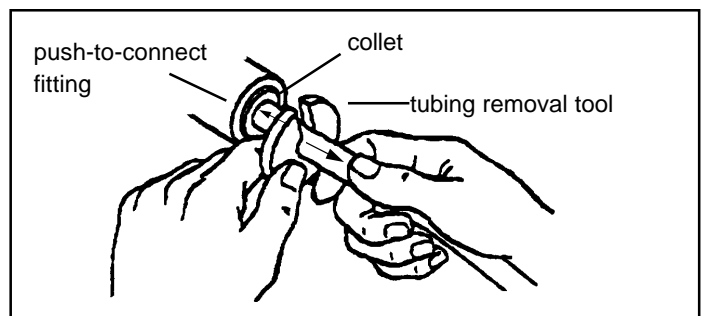

Figure 2 - Tubing Removal
2. Using a tubing removal tool or similar device, disconnect the air lines from the TP-5. Push in the collet to remove the tubing. (See Figure 2.)